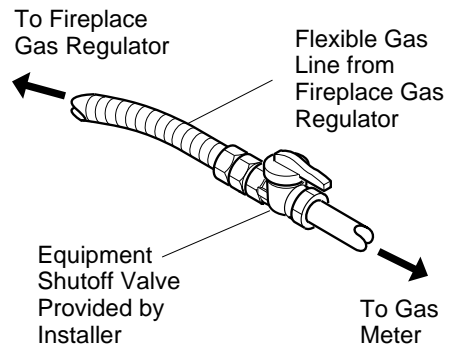

**Figure 18 - Removing Log Base Assembly From Fireplace**
2. Remove screws that attach log base assembly to fireplace (see Figure 18). Carefully lift up log base assembly and remove from fireplace (see Figure 18).